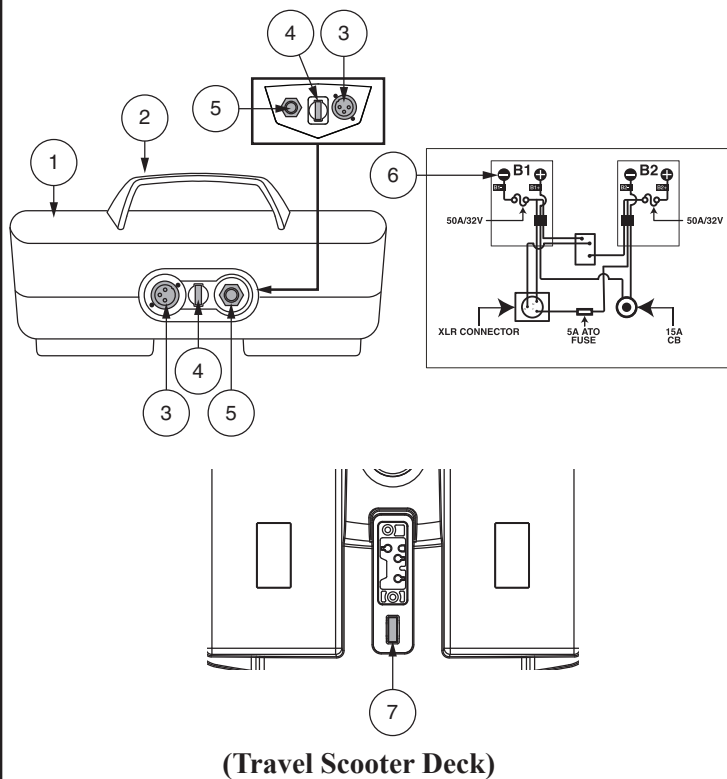

Figure 3. Battery Pack
When the voltage in your Travel Scooter's batteries becomes low or the Travel Scooter is heavily strained because of excessive loads or steep inclines, the main circuit breaker may trip to protect the motor and electronics from damage. **See figure 3.**
- Ensure that the fuse on the battery pack is in working condition. See figure 3.